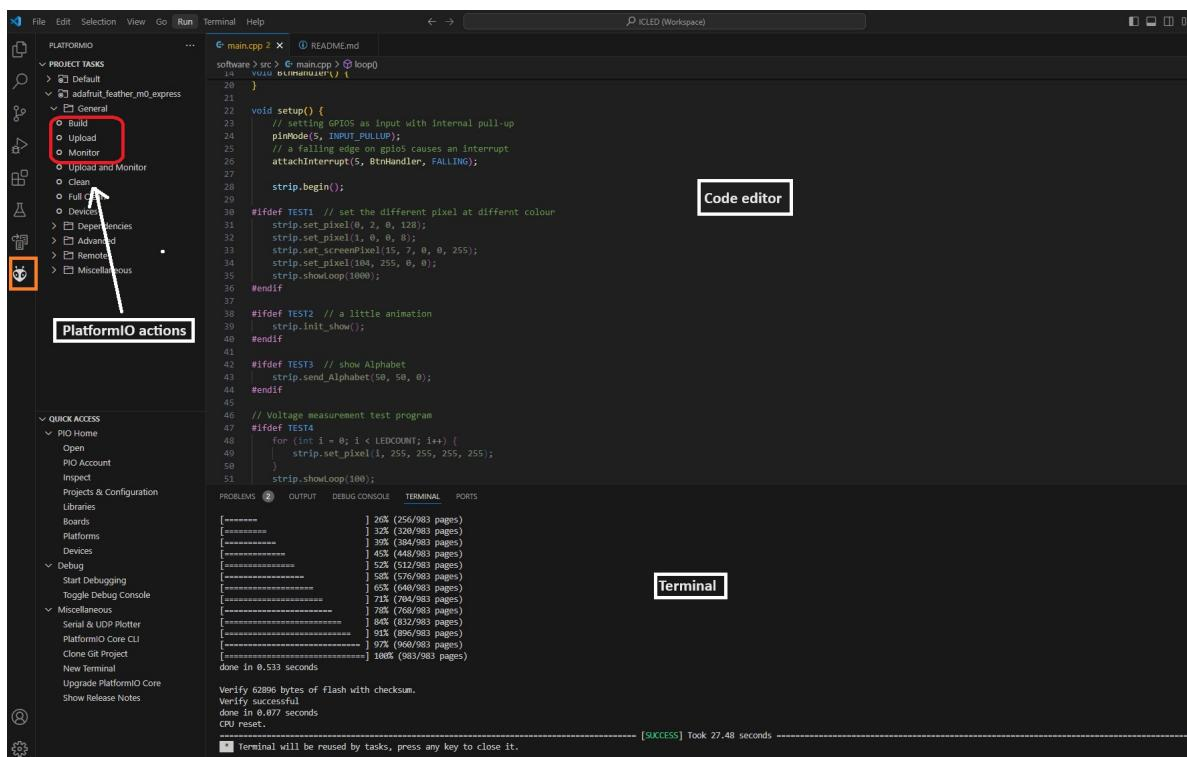

Figure 17: Running the quick start example
4. After successful upload, click on Monitor to view the debug logs in the serial terminal (See figure 17).